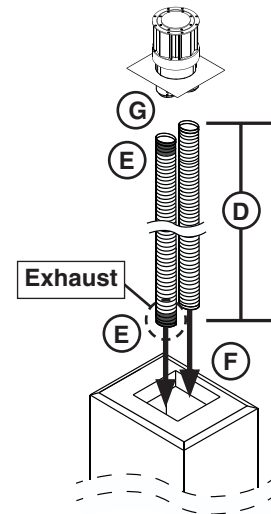
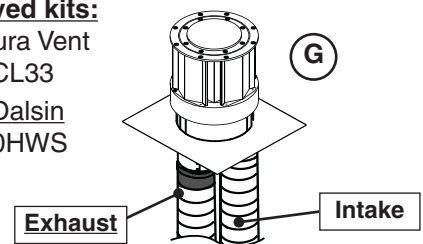

Fig. 24-2 Prepare, route, & connect pipes
Fig. 24-3 Termination cap install detail
4. Stretch the vent pipes to the measured length. Or, if necessary, cut the pipes to the measured length using snips or a hacksaw. See Fig. 24-2, D.
5. Mark each end of one pipe. This is the exhaust. See Fig. 24-2, E.
6. Carefully route the pipes through the chimney (see Fig. 24-2, F).
7. Connect the termination cap to the pipes as instructed in the manufacturer instruction (see Fig. 24-2, G, and Fig. 24-3.